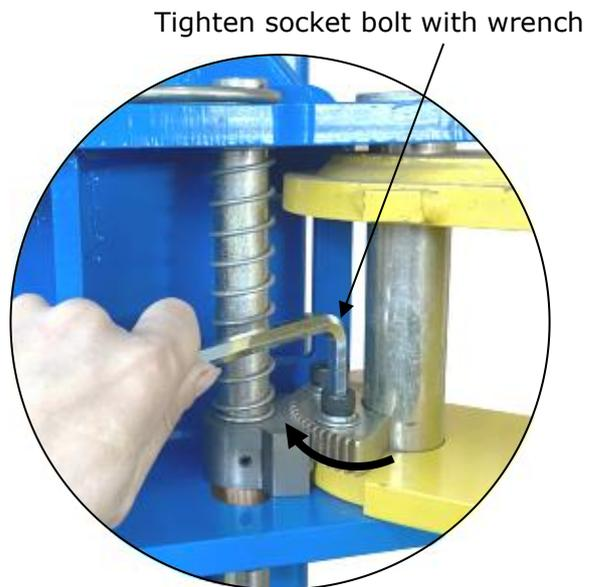

Fig. 38
4. Adjust moon gear and arm locks to make it to be meshed, then tighten the socket bolts of arm lock (See Fig.38).